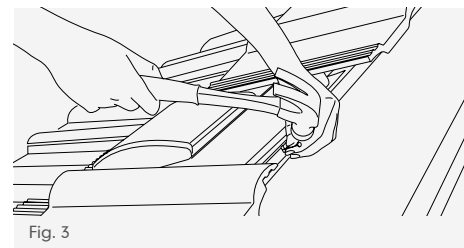

Fig. 3
- 5 Place the tile vent into position centrally over the overall width of the tile below, ensuring the 'nib' is resting squarely against the back face of the tiling batten. Secure the vent tile by nailing through the slot in the 'nib' into the back face of the tiling batten using a 25mm long x 3mm dia. non-corrosive nail (galvanised steel, aluminium or stainless steel) (Fig. 3).